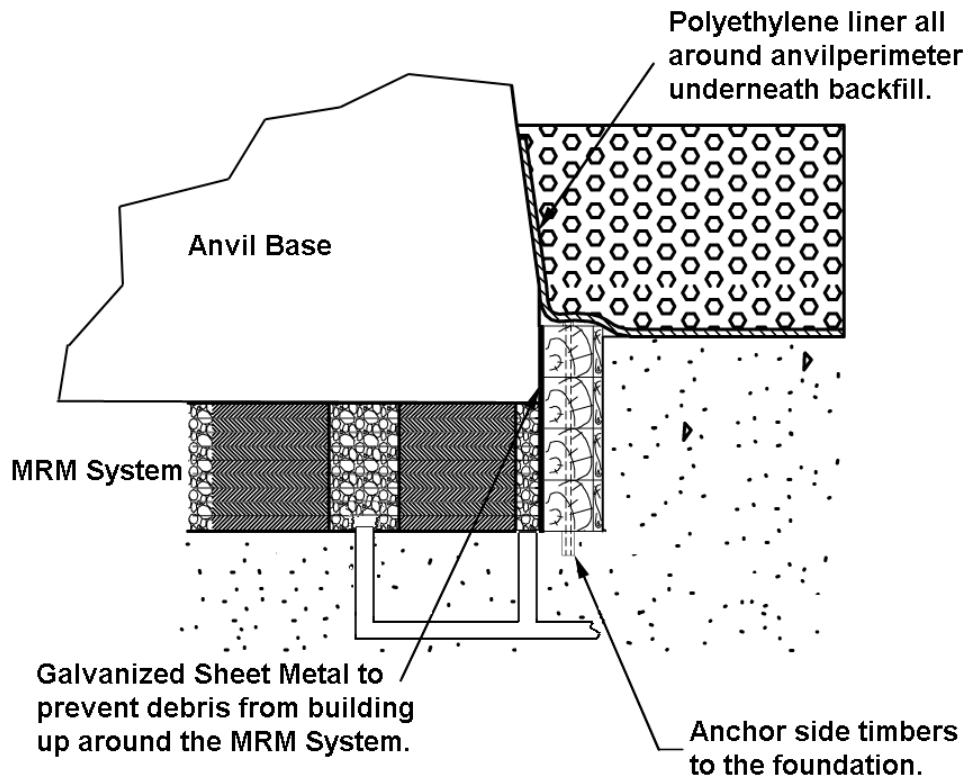

FIGURE 4
8. For foundation designs **using backfill** (Figure 4), extra precautions are highly recommended: